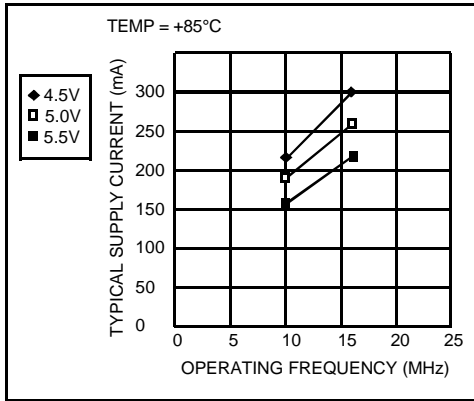
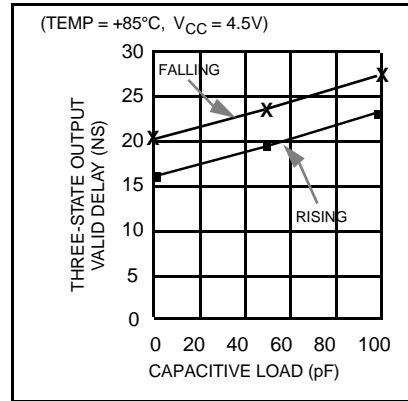

Figure 8. Typical Current vs. Frequency (Hot Temp)
Figure 9. Capacitive Derating Curve
For a given output current ( $I_{OL}$ ) the curve in Figure 8 shows the worst case output low voltage ( $V_{OL}$ ). Figure 9 shows the typical capacitive derating curve for the 80960SB measured from 1.5V on the system clock (CLK) to 0.8V on the falling edge and 2.0V on the rising edge of the bus address/data (AD) signals.